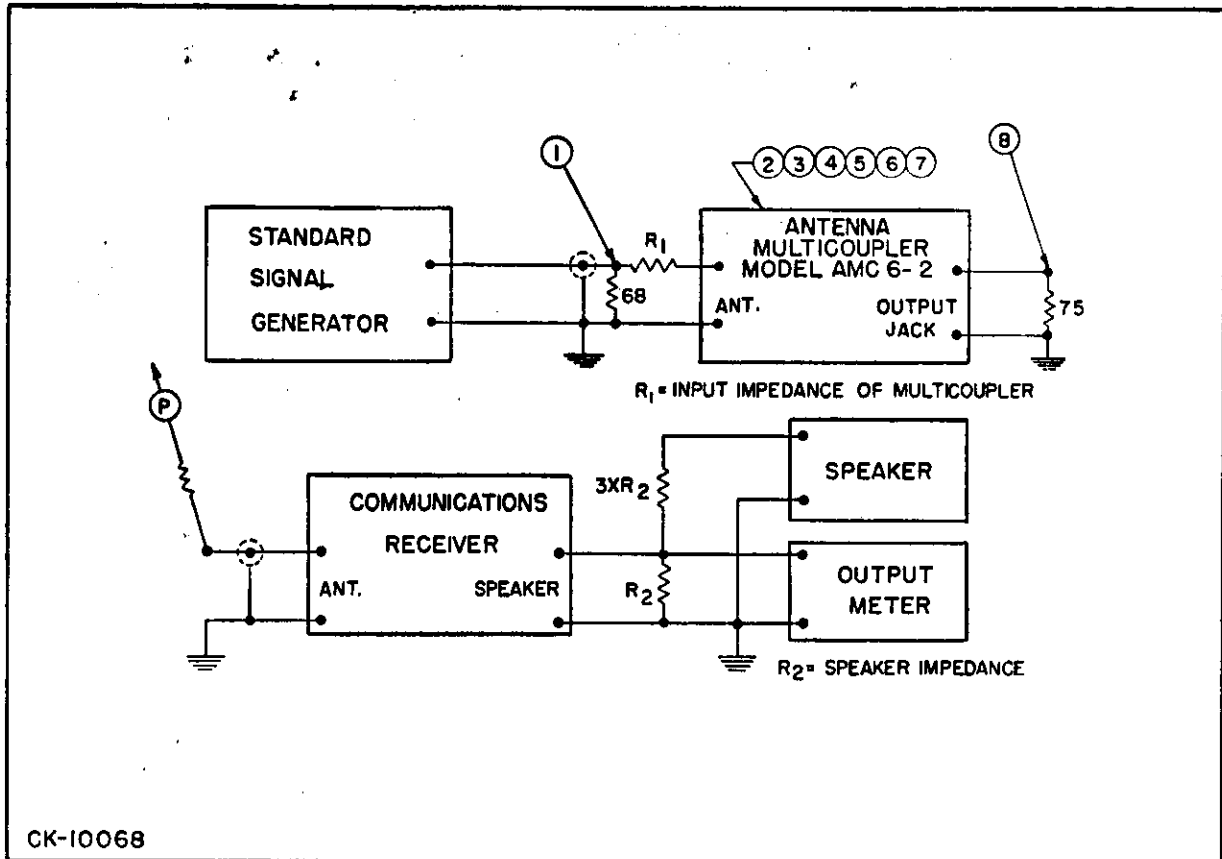

Figure 5-1. TEST SET UP FOR GAIN MEASUREMENTS
c. The spurious signal amplitude to be expected from two signals applied at the input of the multicoupler is shown in Figure 6-2. Every precaution has been taken in the design of the instrument to minimize intermodulation effects in the receiving system. At the low end of the band (where high level signals from local broadcast stations are likely) filter FX101 becomes effective. Sufficient attenuation is provided by the filter so that signals are reduced to a level where they are ineffective in the production of spurious signals. The filter may be switched out or in as desired. In some instances the location of the receiving station is such that excessive signals from a powerful local station may cause serious intermodulation effects in the receiving system. This, however, should not be troublesome for signals under 10,000 microvolts. Should it be found that signals of a higher order than 10,000 microvolts are causing serious intermodulation effects, additional filters may be inserted in the antenna transmission line. A suggested method of locating the frequency or determining the amplitude of interfering signals can be obtained by referring to the test set-up in Figure 5-1. First, disconnect the multicoupler from the circuit and connect the antenna lead together with test probe (P) to test point (2); set the signal generator to the unmodulated condition and turn the attenuator to zero. Tune the receiver until a strong signal is located and turn on the BFO switch; adjust the gain controls for a convenient reading on the output meter using the highest signal obtained on either side of zero beat as a reference voltage. Move the tuning dial until the signal disappears; adjust the frequency and attenuator controls of the signal generator until a voltage comparable with the reference voltage is obtained on the output meter. The signal generator setting in microvolts indicates the strength of the signal pick-up by the antenna while the first tuning dial position of the receiver indicates its frequency.
c. Faults which are difficult to locate by other means may be isolated by the test set up shown in Figure 5-1. The signal generator should be set for a modulated condition of 1000 cycles per second and a modulation depth of 30 per cent. Next set up the receiver gain controls for use as a fixed level detector. To do this connect test probe (P) to test point (3); set the signal generator attenuator to 100  $\mu$ V; turn the receiver audio gain control up, and with the BFO off adjust the manual RF gain control to a minimum value for a convenient voltage reading on the output meter. Connect test probe (P) to other test points and adjust ONLY the signal generator attenuator to obtain the same output meter reading as before. Record the attenuator settings in a table similar to Table 5-2. Ratios between the microvolt settings in this table can be used to locate quickly any circuit fault in the multicoupler.